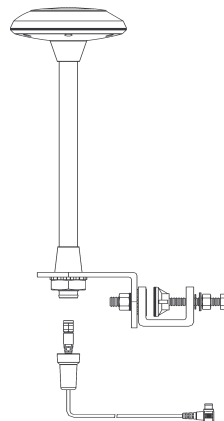

Figure 10. Cable Connector/
16. Take the cable connector (180 degree connector) NOT the Right-Angle SMB Connector and hand tighten over the connector on the bottom side of the Antenna Assembly. See Figure 10.
18. Place the rubber boot over the end of the Antenna Assembly shaft after the cable connector has been tightened. See Figure 10